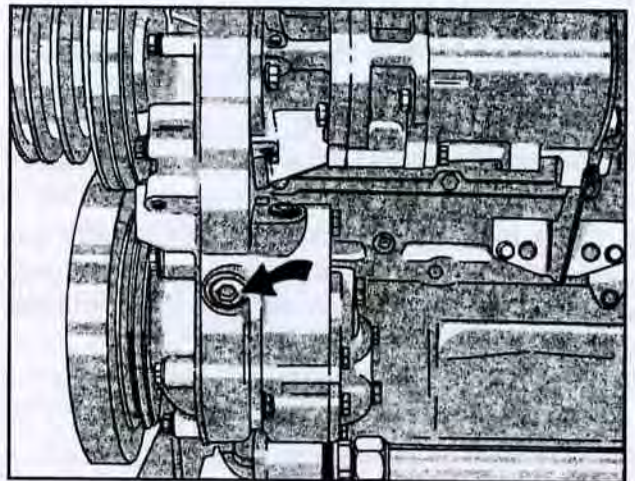
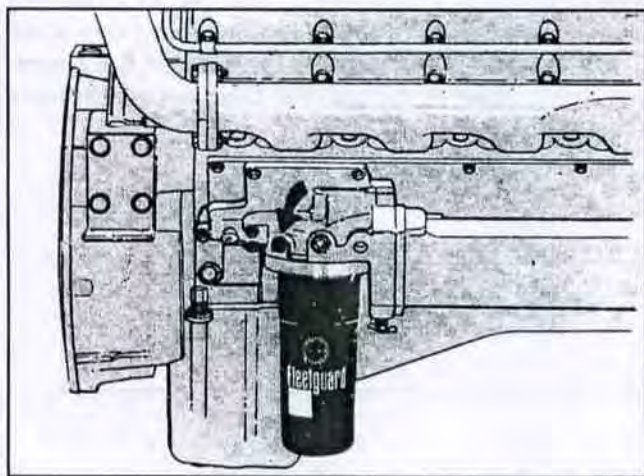
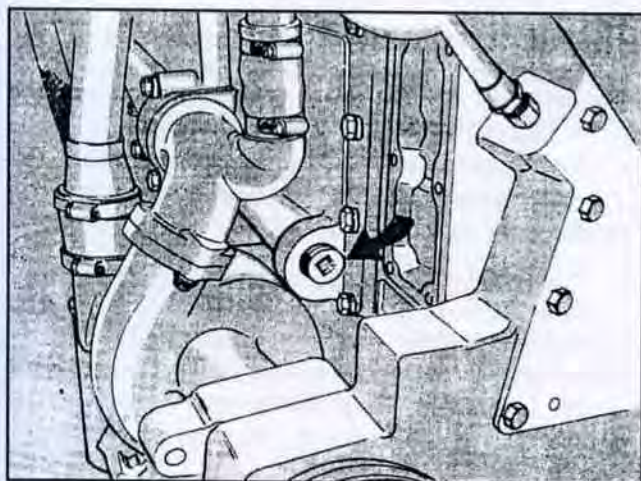

Fig. 1-1, (OM1001L). Lubricating system priming point—NT-855 C.I.D. Engine
Fig. 1-2, (OM1002L). Lubricating system priming point—VT-903 C.I.D. Engine
Fig. 1-7. (OM1004L). Lubricating system priming point — KT/KTA19 C.I.D. Engine
2. Remove the plug from the lubricating oil crossover passage on NH/NT-855 Engines, Fig. 1-1. Remove the plug from the head of the lubricating oil filter housing on V Engines, Figs. 1-2, 1-3, 1-4, 1-5 and 1-6. On KT/KTA19 Engines, remove the plug from the front of the oil cooler housing, Fig. 1-7.